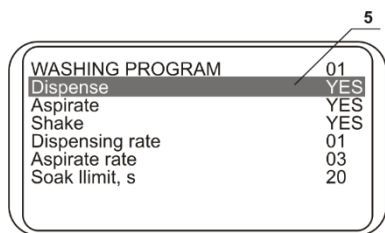
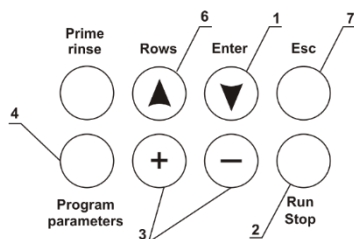
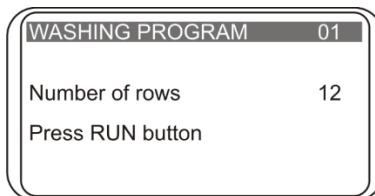

Figure 4. Control panel
Figure 5. Program selection
Figure 6. Setting number of rows to rinse
5.2. Initial parameters of all programs are given in Table 1. All values are adjustable. User programs can be created by changing the template of the original program. All programs are divided into 5 categories with 10 programs each, see figure 4. Each category corresponds to a different type of microplate:
- Category **IPF96 U/V** (1) is intended for U-shape and V shape well immunoplates.
- Categories **IPF96 FLAT-2** (2) and **IPF96 FLAT-C** (3) are intended for flat-bottom well immunoplates.
- Categories **FastFRAME-2** (4) and **FastFRAME-C** (5) are intended for Watman Schleicher & Shuell FastFRAME plates with rectangular wells.
- 5.5. Use the **Enter** (fig. 4/1) key to select category, depending on the used plate type. Use the **+** and **-** keys (fig. 4/3) to select required washing program from 1 to 10. Program category and number are displayed in the top right corner of the display (fig. 5/1)
- 5.6. Press the **Program Parameters** key (fig. 4/4) to view the parameters of program. In the program, 1st parameter is activated (Dispense...yes/no, fig. 4/5).
- 5.8. Press the **Rows** key (fig. 4/6) to return to the previous parameter in the program.
- 5.10. Press the **Esc** key (fig. 4/7) to exit parameter view and change mode without saving.
- 5.11. Press the **Run/Stop** key (fig. 4/2) to start the program.
- 5.12. If it is necessary to wash less than 12 rows on a microplate, press the **Rows** key (fig. 4/6) before starting. Following message appears on the display, figure 6.